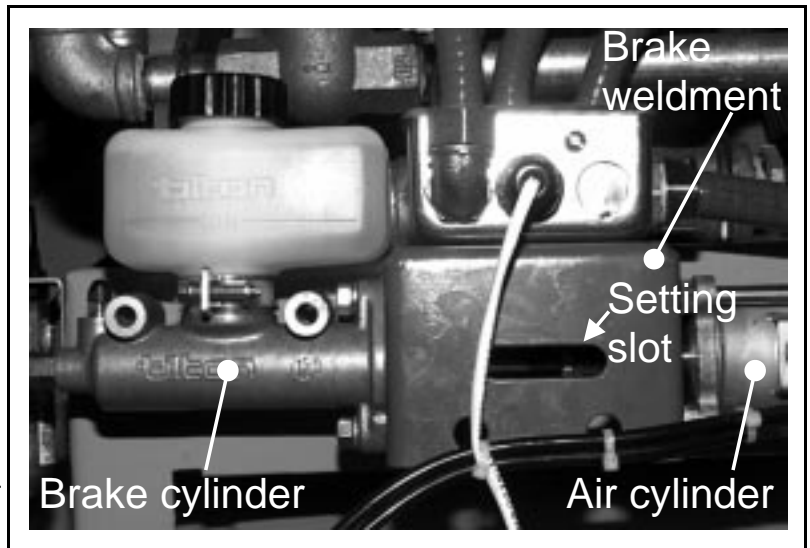
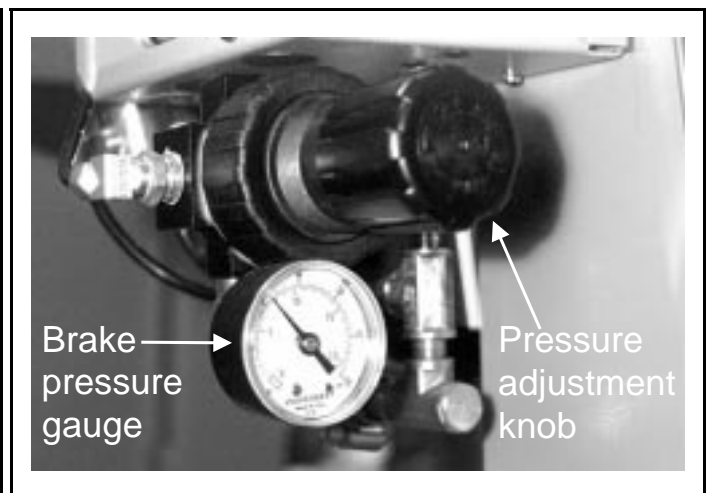

FIGURE 5 (MSSMA426AE)
FIGURE 7 (MSSMA426AE)
1. After energizing machine, manually release the brake. This causes the air cylinder rod to fully retract into the air cylinder (FIGURES 5 and 6).
4. Observe and mark the position of the lock nuts as viewed through the setting slot shown in FIGURE 5. Verify that the brake pressure (FIGURE 7) is between 10 - 12 PSI (0.70 - 0.84 kg/cm²). Manually apply the brake and mark the new position of the lock nuts. Verify that the range between marks is approximately 0.75 - 1.00 inch (19-25 mm).